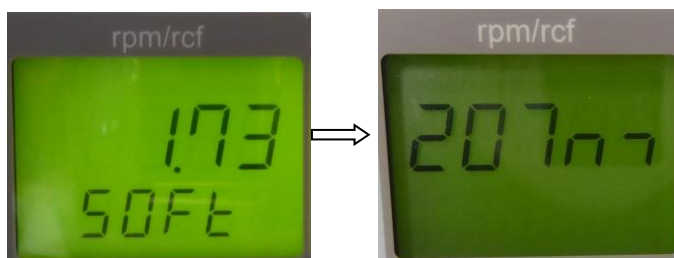
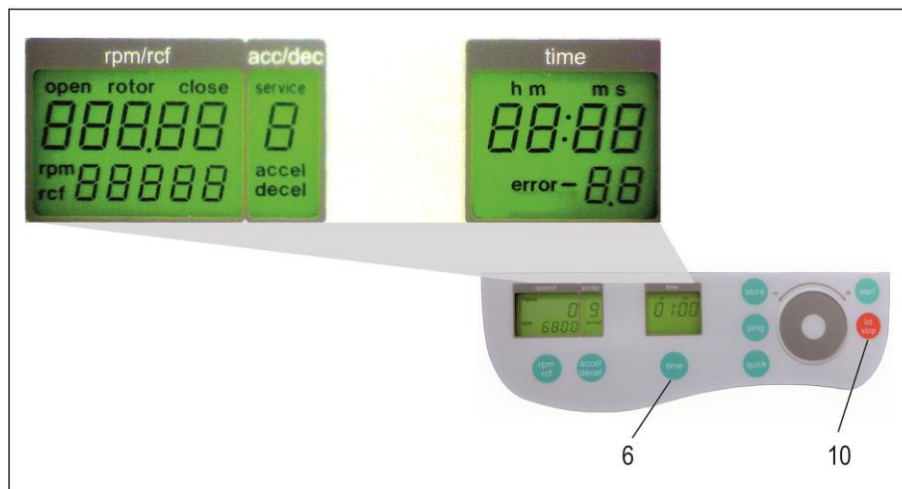

Figure 1
Figure 3
Open the centrifuge lid and shut off the main switch. Now switch on again the main switch. For approximately 3 seconds the software version and the model type will be shown in the display (see Figure 1). Press during this time the keys "time" (6) and "lid/stop" (10) simultaneously. As a result, a display test is administered for approx. 3 seconds. All possible indications will appear at the same time (see Figure 3).